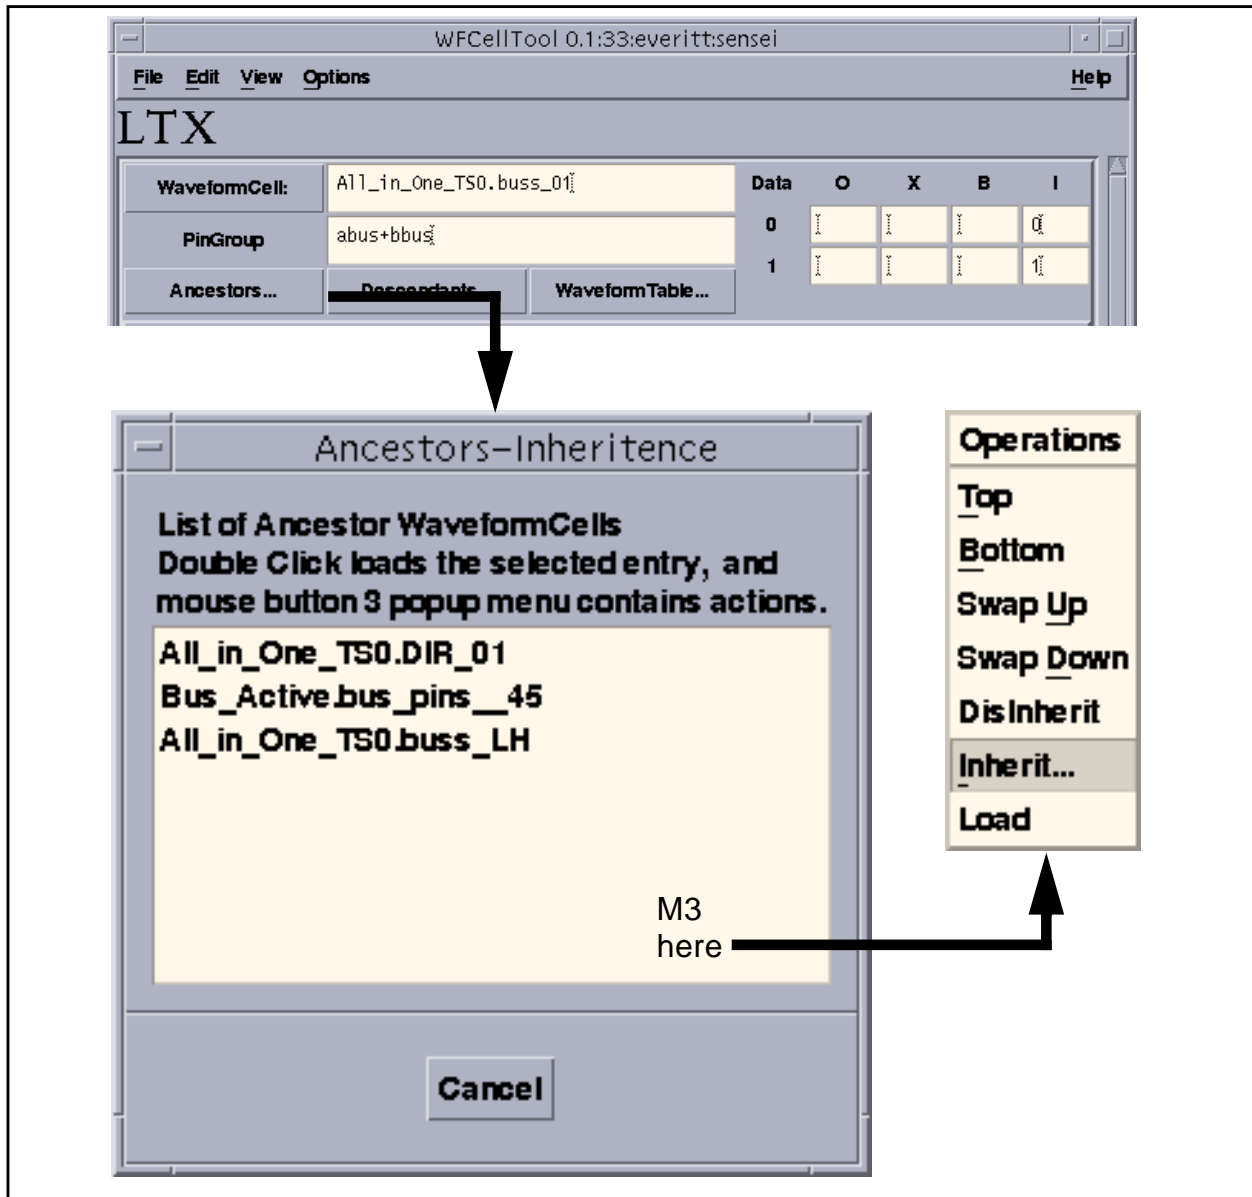

Figure 2.26: Inherit Contents of Cell Using WFCellTool
- In WFCellTool, select Ancestor. In the Ancestor popup, press and hold M3, select Inherit -> WaveformTable and Cell to inherit; see Figure 2.26.